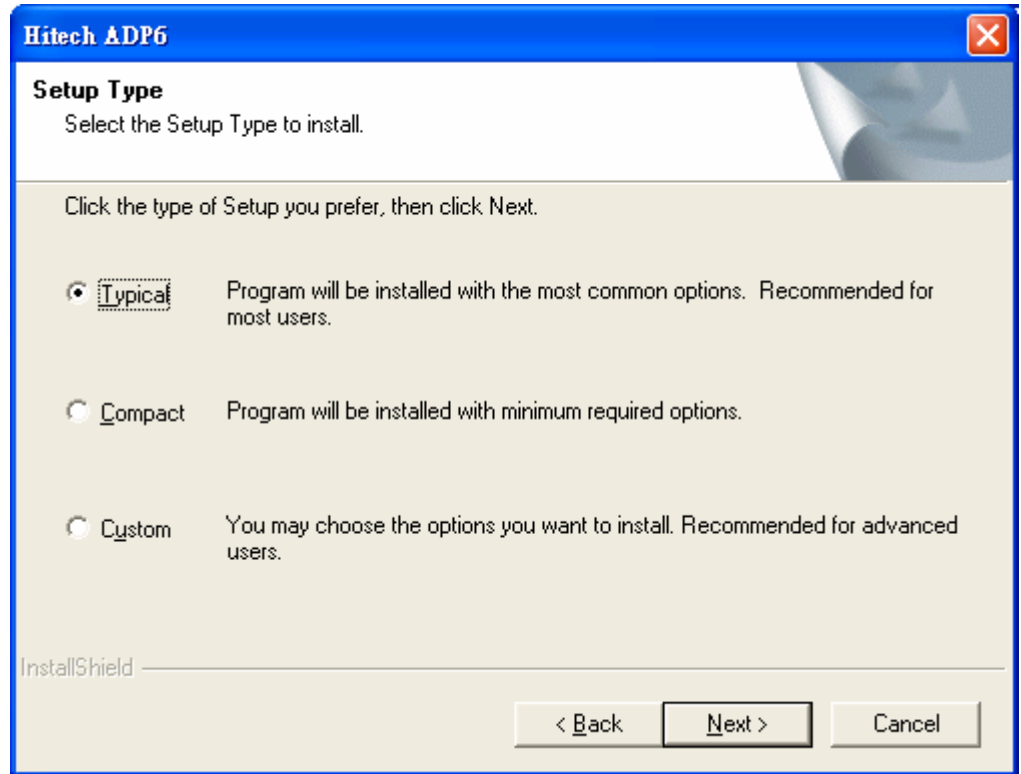

Figure 4. Select the type of setup
- Click [Next] to select the type of setup. See Figure 4. “Typical” is recommended for the most users. “Compact” is the program with basic options. “Custom” is the program which users can individually select the options to install and this is recommended for advanced users.